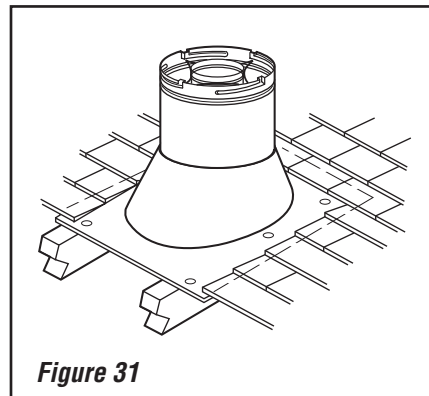

Figure 31
I. Install the roof flashing - Extend the vent sections through the roof structure. Install the roof flashing over the vent section and position such that the vent column rises vertically (use carpenter's level) (**Figure 31**). Nail along perimeter to secure flashing or adjust roofing to overlap the flashing edges at top and sides only and trim where necessary. Seal the top and both sides of the flashing with waterproof caulking.